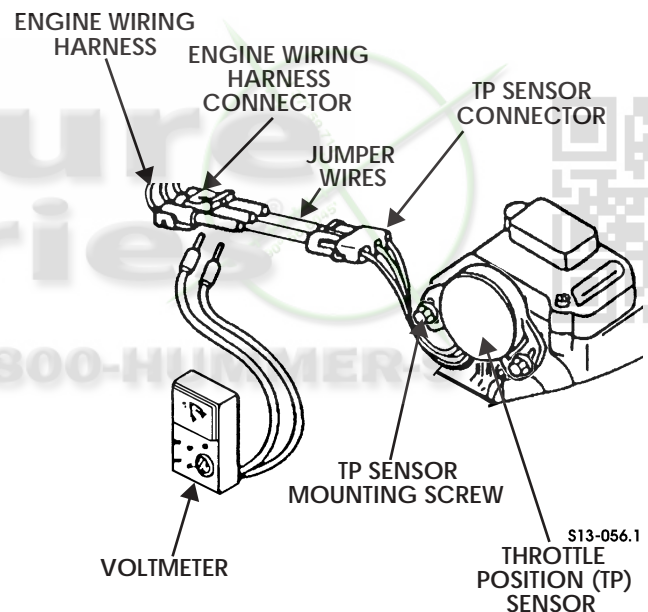

Figure 5-106: Throttle Position Sensor
1. Disconnect TP sensor connector from engine wiring harness connector and install the jumper wires between the TP sensor and the engine wiring harness (Figure 5-106).
7. Loosen the TP sensor mounting screws and rotate the TP sensor toward the rear of the vehicle (counterclockwise) (Figure 5-106).